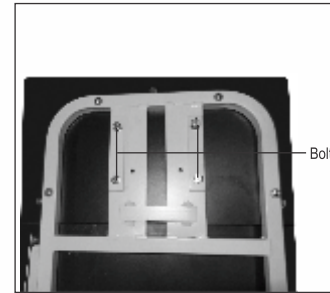

Fig 1
1. Place the top upside down on the flat surface (Fig 1) and remove the bolt from the top.